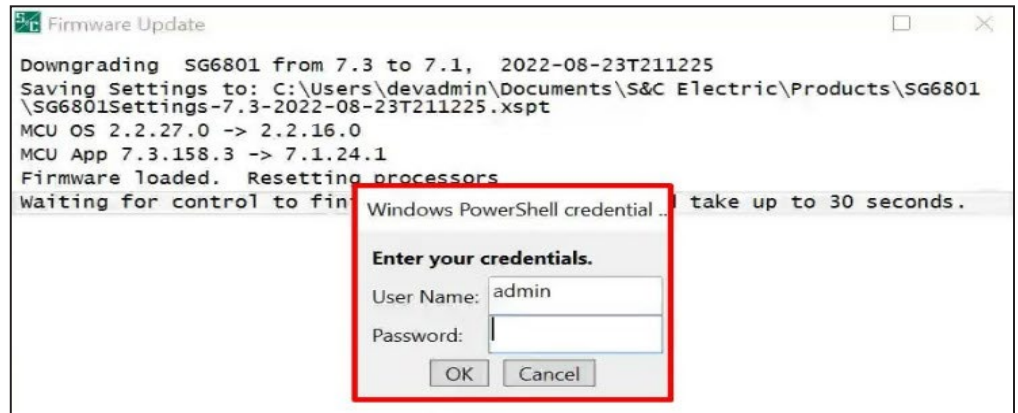

Figure 48. The Windows PowerShell Credentials dialog box.
STEP 19. If the Windows PowerShell Credential dialog box appears, enter the same password entered in Step 9 on page <?>. See Figure 48.